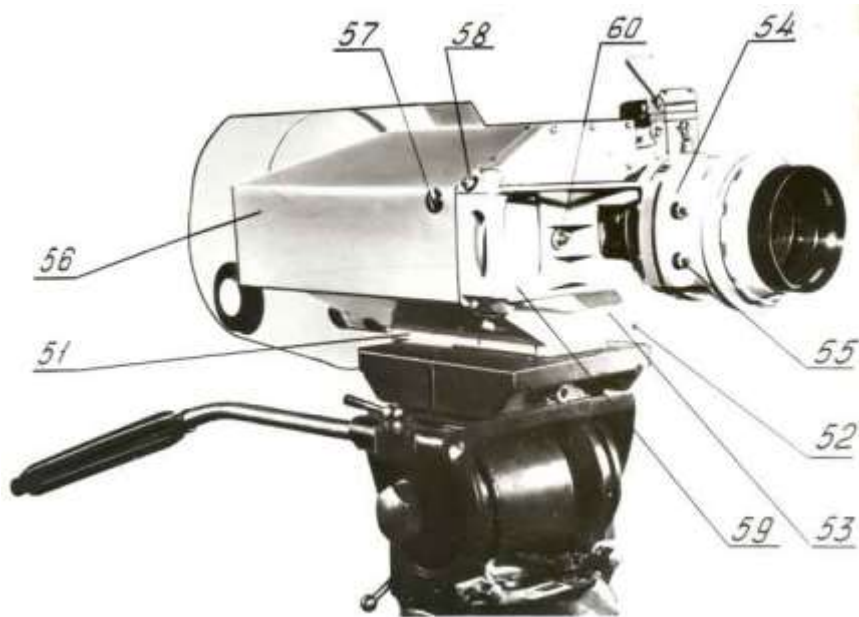

Figure 12. View from the lens brackets side.
The camera is pictured on the Figures 12, 13. It is the body (51) (Figure 12) with gears inside.
The body has the front side (53) (Figure 12) attached to it by means of the screws (52). The front side has lens mount. A lens body has the ring (54) to attach a bracket for heavy lens support. The ring and body are fastened to the brackets by means of the screws (55). The housing (56) covers the motor. The cap (57) can be taken off for manual turn of the camera gears.